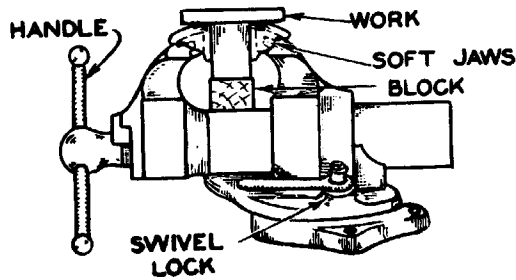

FIG. 6 BENCH VISE
2. Place a pair of soft jaws on the jaws of the vise if finished work is being clamped. Put a block below the work to prevent it from slipping down in the vise (Figure 6).